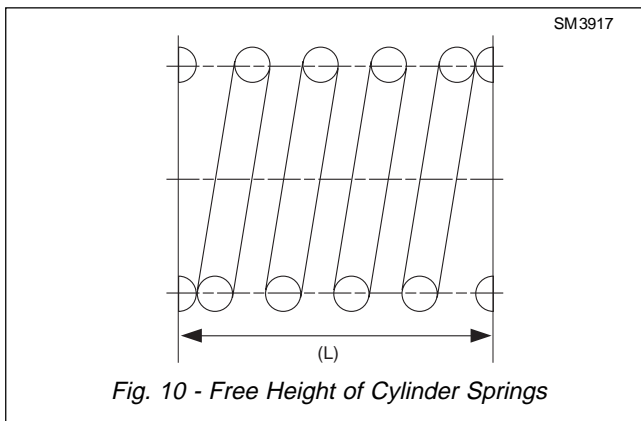

Fig. 10 - Free Height of Cylinder Springs
4. If the cylinder spring (10) has been removed, measure its free length, identified as 'L' on Figure 10 below. Use the table on Page 6 to assess whether or not to renew the cylinder spring.
7. Before starting the engine after pump installation, remove the remaining case drain plug from the pump and an appropriate plug from the hydraulic tank and install 0 - 3.5 bar (0 - 50 lbf/in²) gauges in both ports, as well as a gauge in the pressure circuit which can be read for setting the steering system pressure. Be sure to back out the adjusting screw of the pressure limiter spool in the compensator assembly (Figure 10) until it is flush with the compensator body.